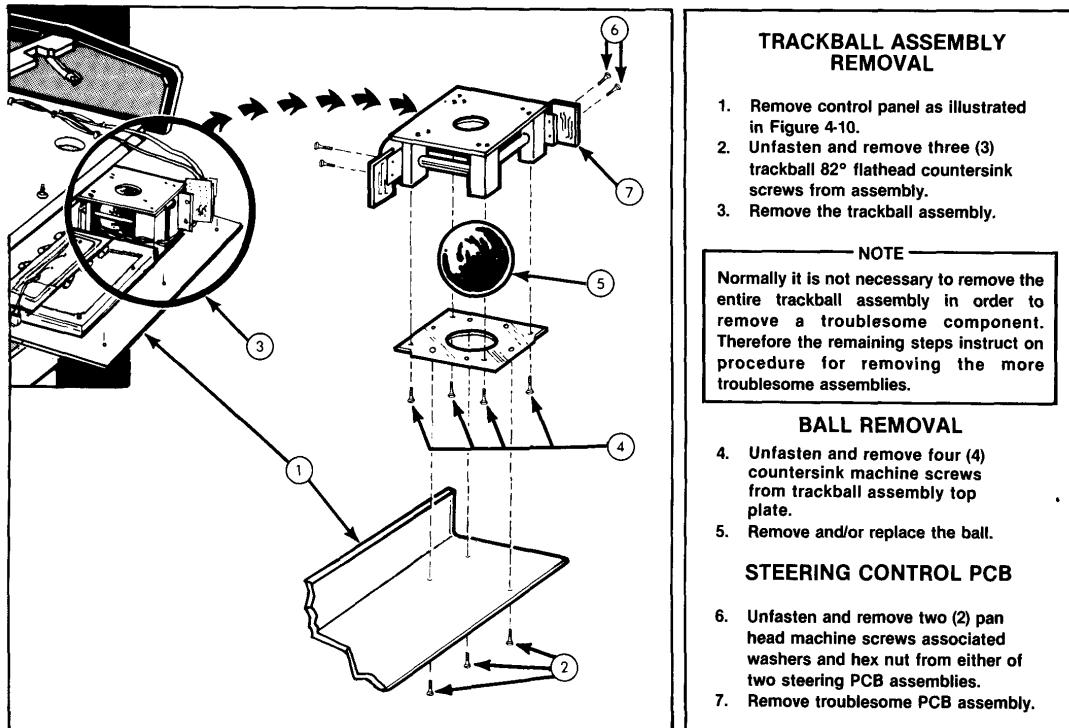

Figure 4-12 Track Ball Assembly Removal
G. TRACK BALL ASSEMBLY REMOVAL (See Figure 4-12)